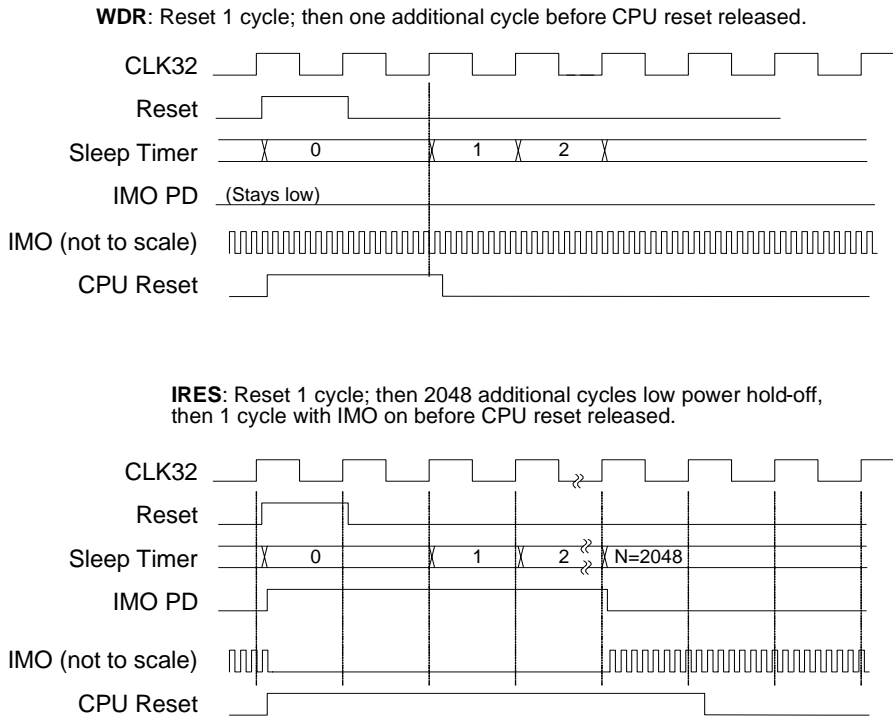

Figure 31-2. Key Signals During WDR and IRES
- CPU operation re-starts one CLK32K cycle after the internal reset de-asserts (see Figure 31-2).